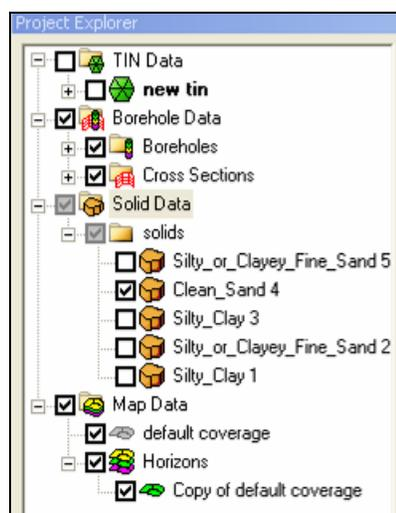

Figure 2. Project Explorer Showing Horizons Conceptual Model.
2. Drag the new coverage so that it is under the **Horizons** conceptual model , as shown in Figure 2. GMS will give you a warning that moving the coverage may change the attribute tables. Click *Yes* to dismiss the warning.